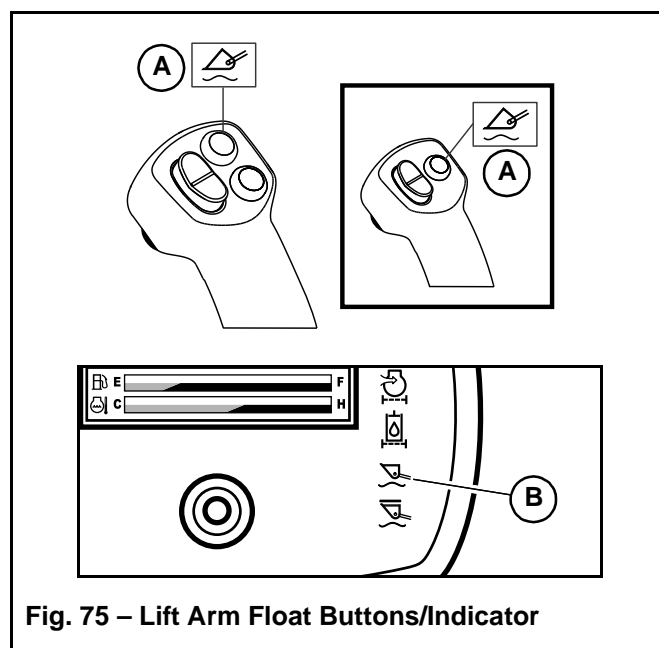

Fig. 75 – Lift Arm Float Buttons/Indicator
2. Press button (A, Fig. 75) on the right control joystick to activate the lift arm float. See “Lift Arm Float” on page 79 for more information about the float feature.
5. When finished, press button (A, Fig. 75) again to deactivate the lift arm float.